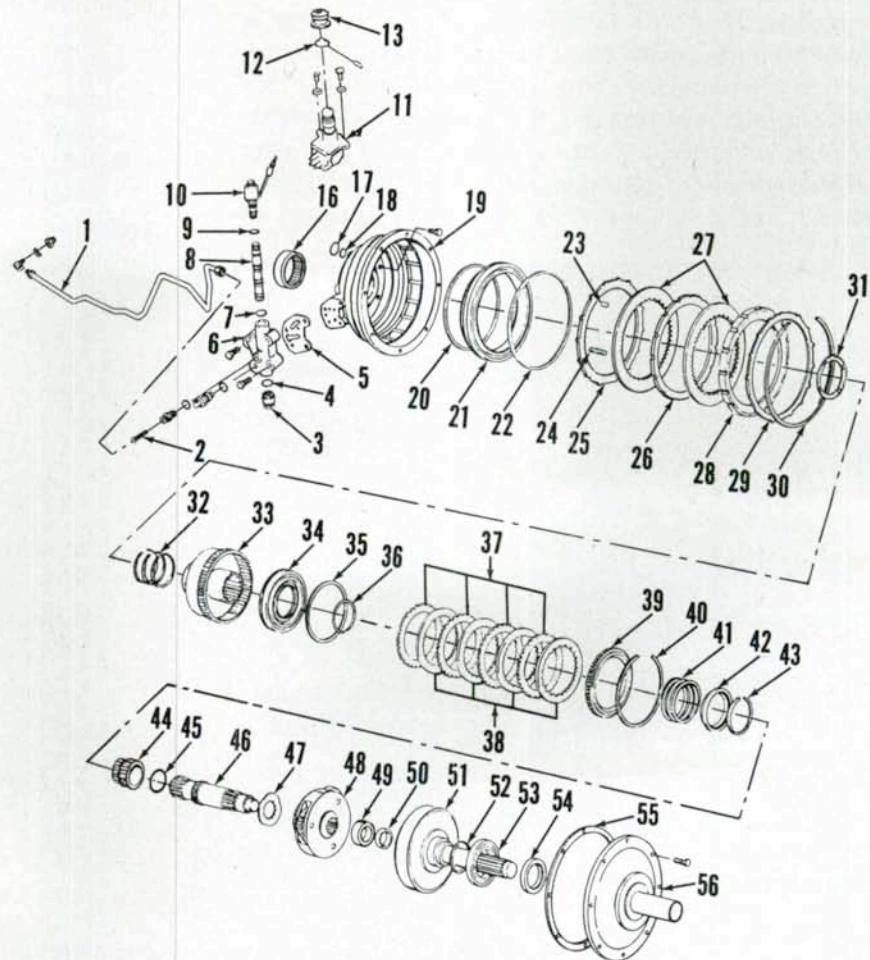

Fig. 187—Exploded view of Dual Power assembly.
for a plugged filter screen (2—Fig. 187) located inside the pressure line fitting on the Dual Power control valve. A plugged screen will cause low oil flow to Dual Power clutches, but hydraulic pressure will check normal at pto supply tube test port.
To disassemble valve, remove plug (3—Fig. 187) from bottom of valve body. Unscrew solenoid and pilot valve assembly (10) from valve body and remove valve spool (8).
138. To remove Dual Power unit, drain oil from transmission housing and split tractor between engine and transmission as outlined in paragraph 130. Disconnect Dual Power pressure line (5—Fig. 186) and lubricant cooler outlet lines (4). Remove access cover (2) from side of transmission housing. Unbolt and remove solenoid and control valve assembly from planetary housing. Remove clevis pins (2—Fig. 183) from clutch release fork (4). Withdraw cross shaft (3) and remove release fork and clutch release bearing hub (1). Unbolt and remove planetary cover (5). Remove ring gear and shaft assembly (51—Fig. 187),
screws to a torque of 77 ft.-lbs. (104 N·m). Be sure that thrust washer (31—Fig. 187) is installed with the tab located in notch of planetary housing. Install planetary cover (56) with the word "TOP" upward to ensure drilled lubrication oil passage is correctly located. Note that cover should easily seat against planetary housing. If not, incorrect assembly is indicated. Tighten cover retaining cap screws evenly to a torque of 32 ft.-lbs. (43 N·m). Install control valve using a suitable liquid gasket on mating surfaces and tighten retaining cap screws evenly to a torque of 32 ft.-lbs. (43 N·m).
To disassemble direct drive clutch, compress the piston return spring as shown in Fig. 188 and remove snap ring (43). Release spring tension and remove spring retainer (42) and spring. Remove clutch pressure plate snap ring (40—Fig. 187) and withdraw pressure plate (39) and clutch pack (37 and 38) from clutch housing (33). Remove seal rings (32). Position clutch housing with front face downward on workbench, then apply air pressure to hole between middle and rear seal ring grooves to remove piston (34).
move snap ring (30) from housing (19). Release spring pressure and remove retainer plate (29—Fig. 187), pressure plate (28), friction plates (27), separator plate (26), springs (24), dowels (23) and rear plate (25). Position planetary housing with front face downward, then apply air pressure to pressure supply port in housing to remove piston (21).
To reassemble Dual Power unit, reverse the disassembly procedure while observing the following special instructions. Apply petroleum jelly to inner and outer seals on clutch pistons prior to assembly in housings. Be sure that gap of snap ring (30—Fig. 187) retaining underdrive clutch pack is aligned with lubrication port in planetary housing (19). Lubricate direct drive clutch hub seal rings (32) with petroleum jelly and position rings so end gaps are staggered around hub. If any of the major components of Dual Power unit are renewed, the planetary end play must be adjusted as outlined in paragraph 140.
To determine correct thickness of shims (52—Fig. 187) required to obtain specified planetary end play of 0.004-0.020 inch (0.10-0.50 mm), proceed as follows: